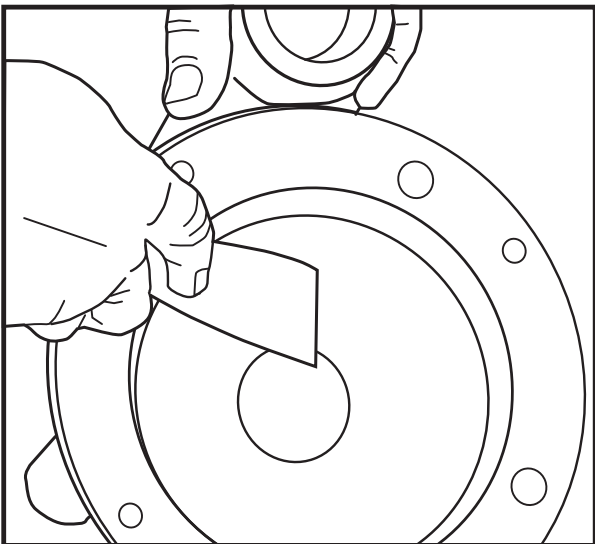

Fig. 25
17. Clean casing thoroughly with wire brush and wash out with solvent. Be sure the discharge port and small weep hole in the volute case is clean and free of any deposits. See Figure 25.